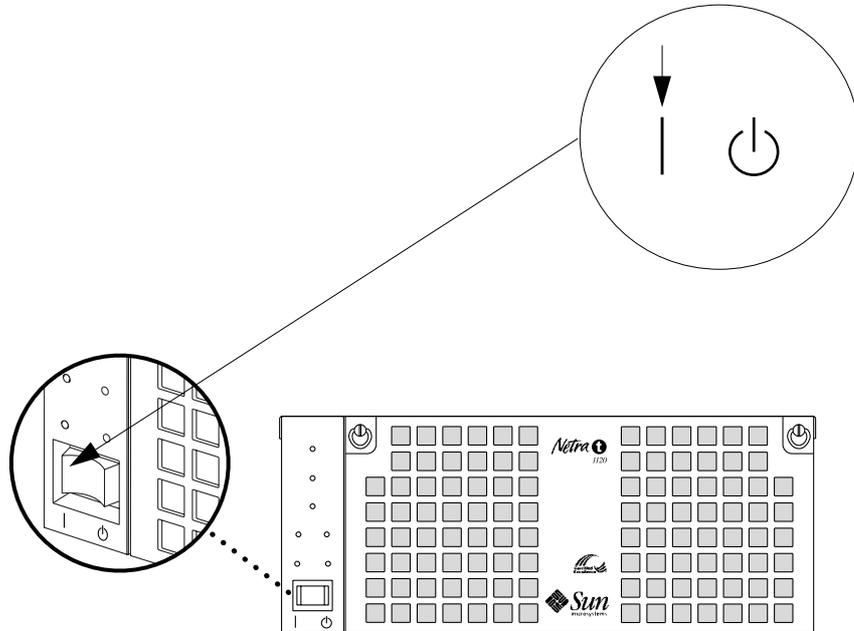

FIGURE 6-1 System Power-On (Front Panel)
2. Momentarily set the front panel ON/STBY system switch to the ON position (FIGURE 6-1).